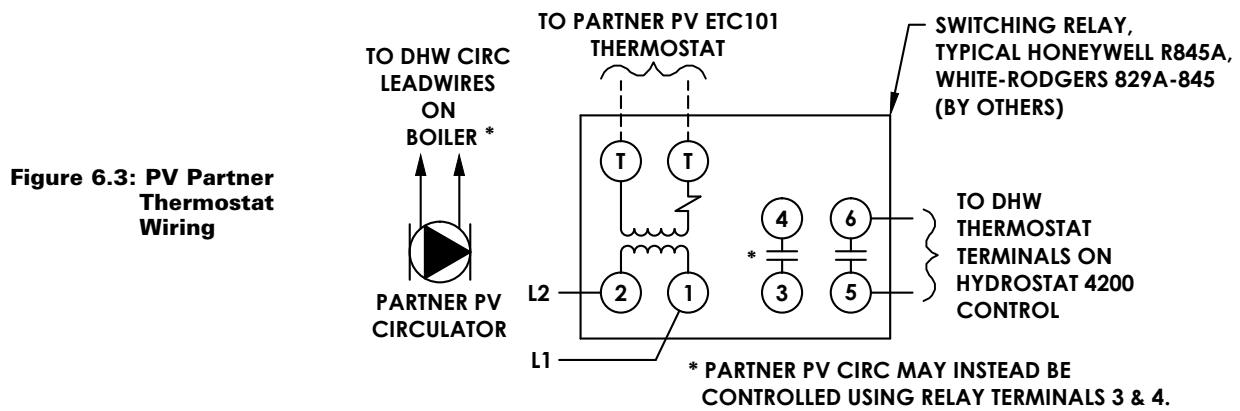

Figure 6.3: PV Partner Thermostat Wiring
5. A zone relay is required when a PV Partner limit control is connected to the Hydrostat. See Figure 6.3